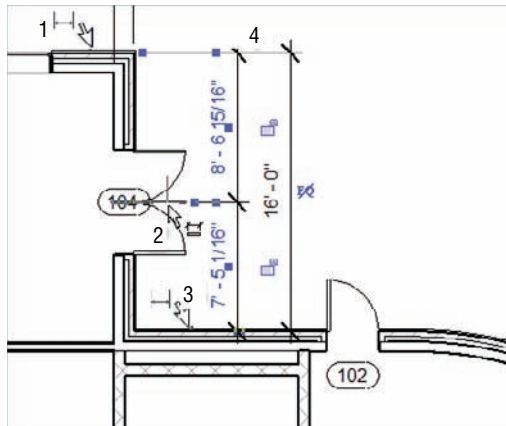

FIGURE 5.7 Adding a dimension string manually
- b. Pick the centerline of the door, as shown in Figure 5.7, but do not press Esc or terminate the command.
- c. Pick the horizontal wall that ties into the radial wall, illustrated as 3 in Figure 5.7.
- d. Pick a point inside (to the left of) the first dimension illustrated as 4, as shown in Figure 5.7. This places the dimension string and finalizes the session.
You will now see that the actual dimension values are blue. Also, you will see a blue EQ icon with a dash through it (refer to Figure 5.7).